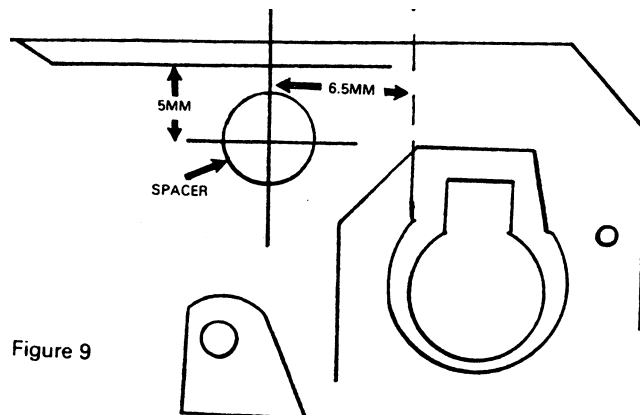

Figure 9
- c. The upper end of the release slide has been cut at a slant to avoid the possibility of catching under the meter latch. In the early cameras, you can prevent the problem by cementing a spacer (part #23900) to the bottom cover (Fig. 9). The spacer limits the travel of the release slide.